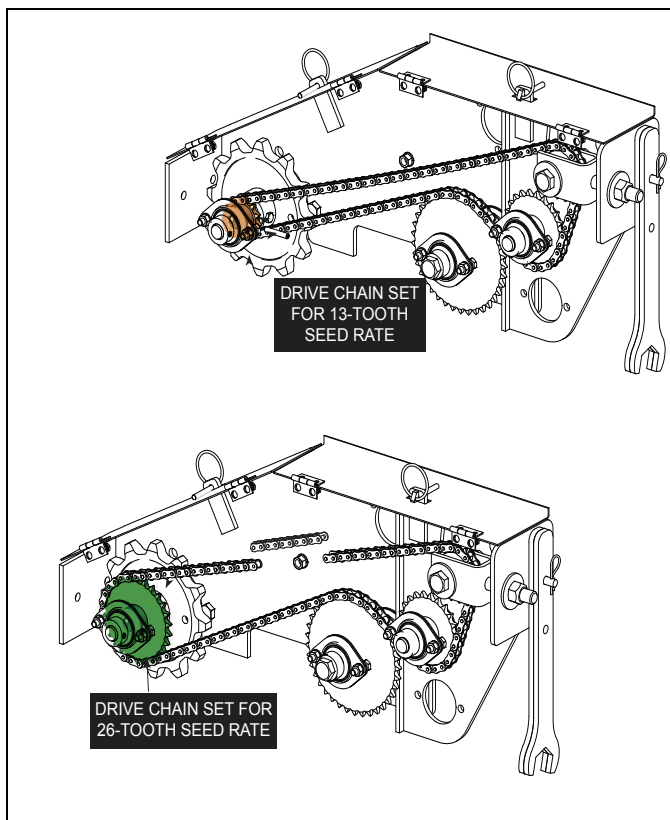

Figure 2-28: Speed Up Kit
10. Adjust chain tension. See Figure 2-28.